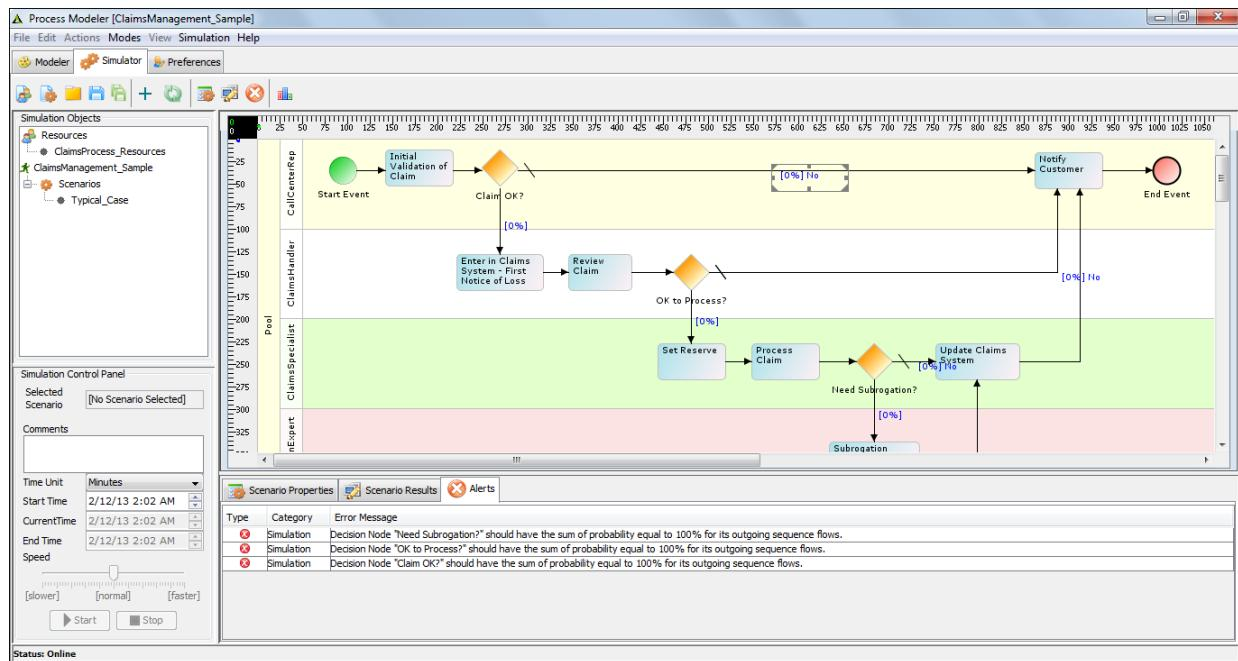

Figure 3: Process Simulator
6. In the Process Modeler applet click the Simulator tab. The process **Simulation** applet is displayed (see Figure 3).